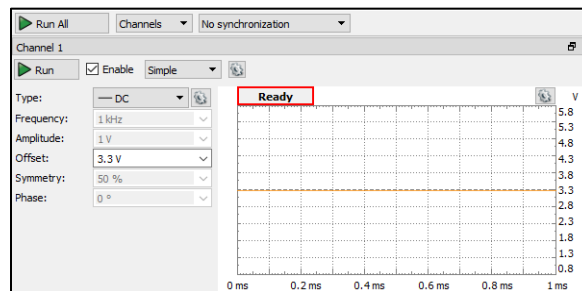

Figure 29: Power with DAD
**Power your circuit (DAD):** Open the Waveform and make sure channel is set to channel 1 by clicking on Channels. Change the type to DC and type 3.3V in the offset box as see in Figure 29. Press Run. To power your circuit, use the yellow W1 Waveform Generator 1 wire. Use any of the black ground wires for ground.